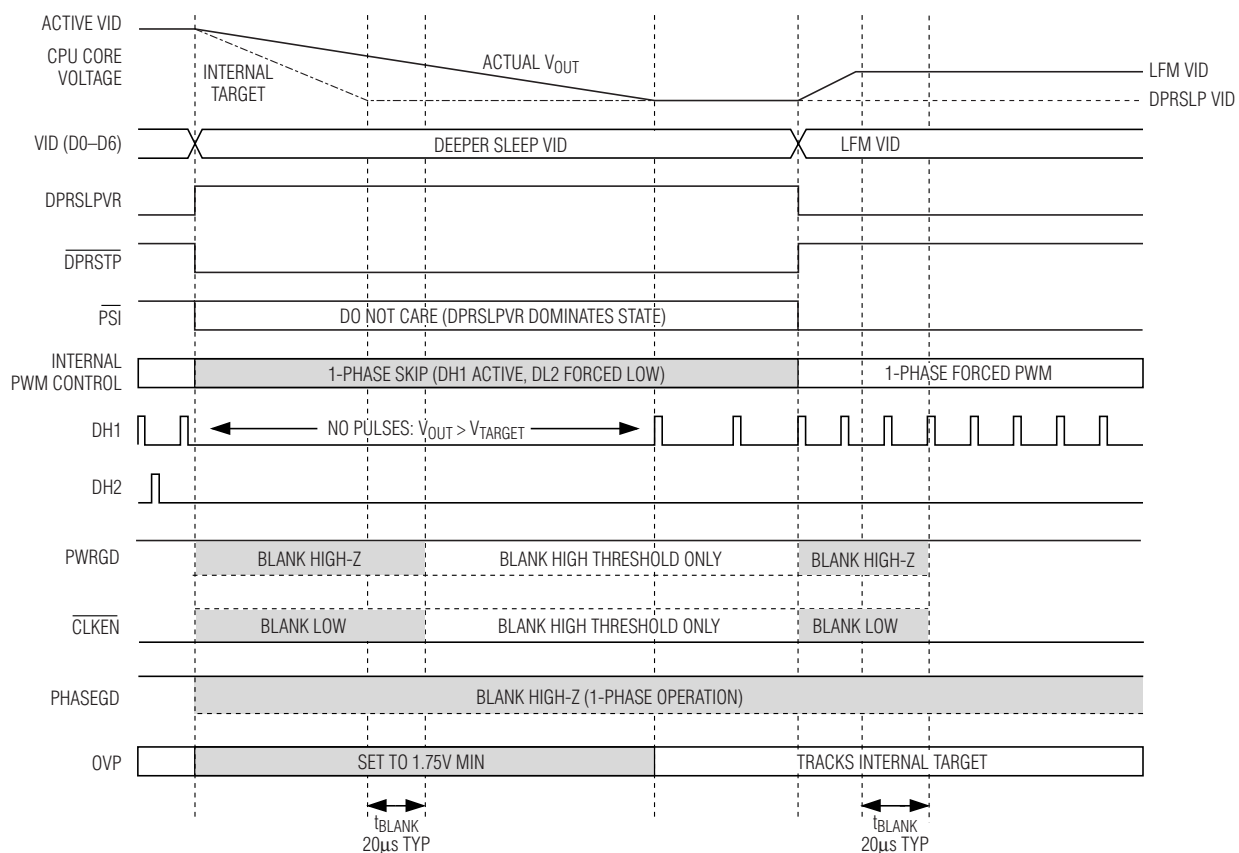

Figure 6. Slow C4 Transition
- Slow C4 Deeper Sleep Exit:** When exiting deeper sleep (DPRSLPVR high, $\overline{DPRSTP}$ pulled high) while the output voltage is regulating to the deeper sleep voltage, the MAX8770/MAX8771/MAX8772 remain in 1-phase skip mode and ramp the output voltage to the LFM DAC code provided by the processor at $1/4$ the slew rate set by R_{TIME} . The controller blanks PWRGD, PHASEGD, and $\overline{CLKEN}$ (forced high impedance) until $20\mu s$ after the transition is completed. See Figure 6.